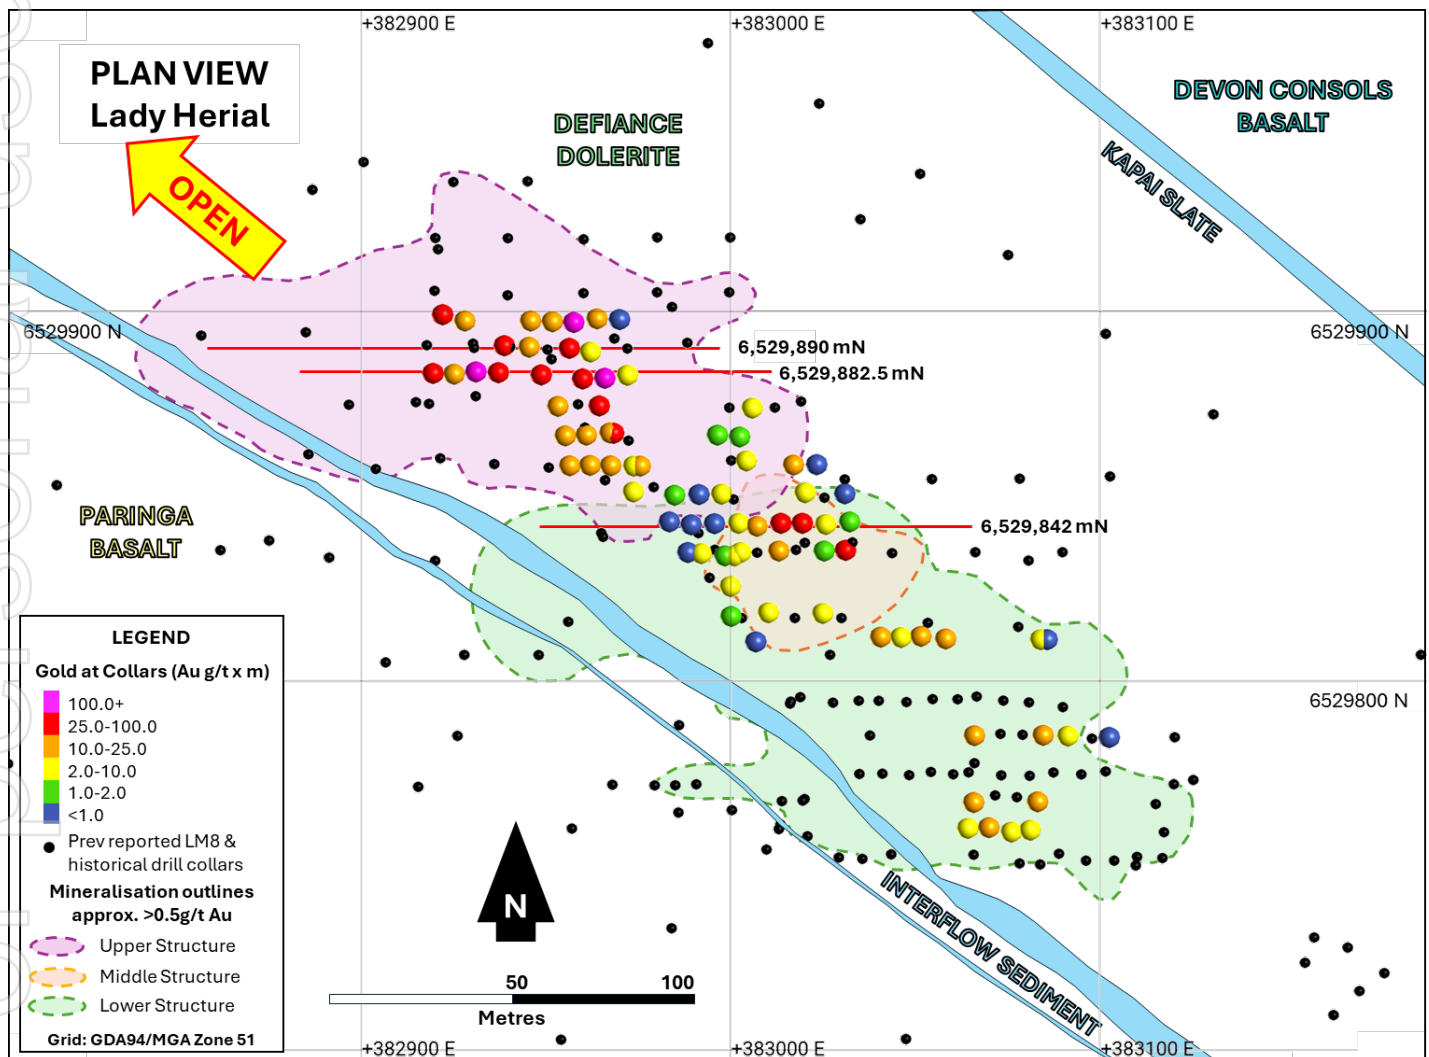
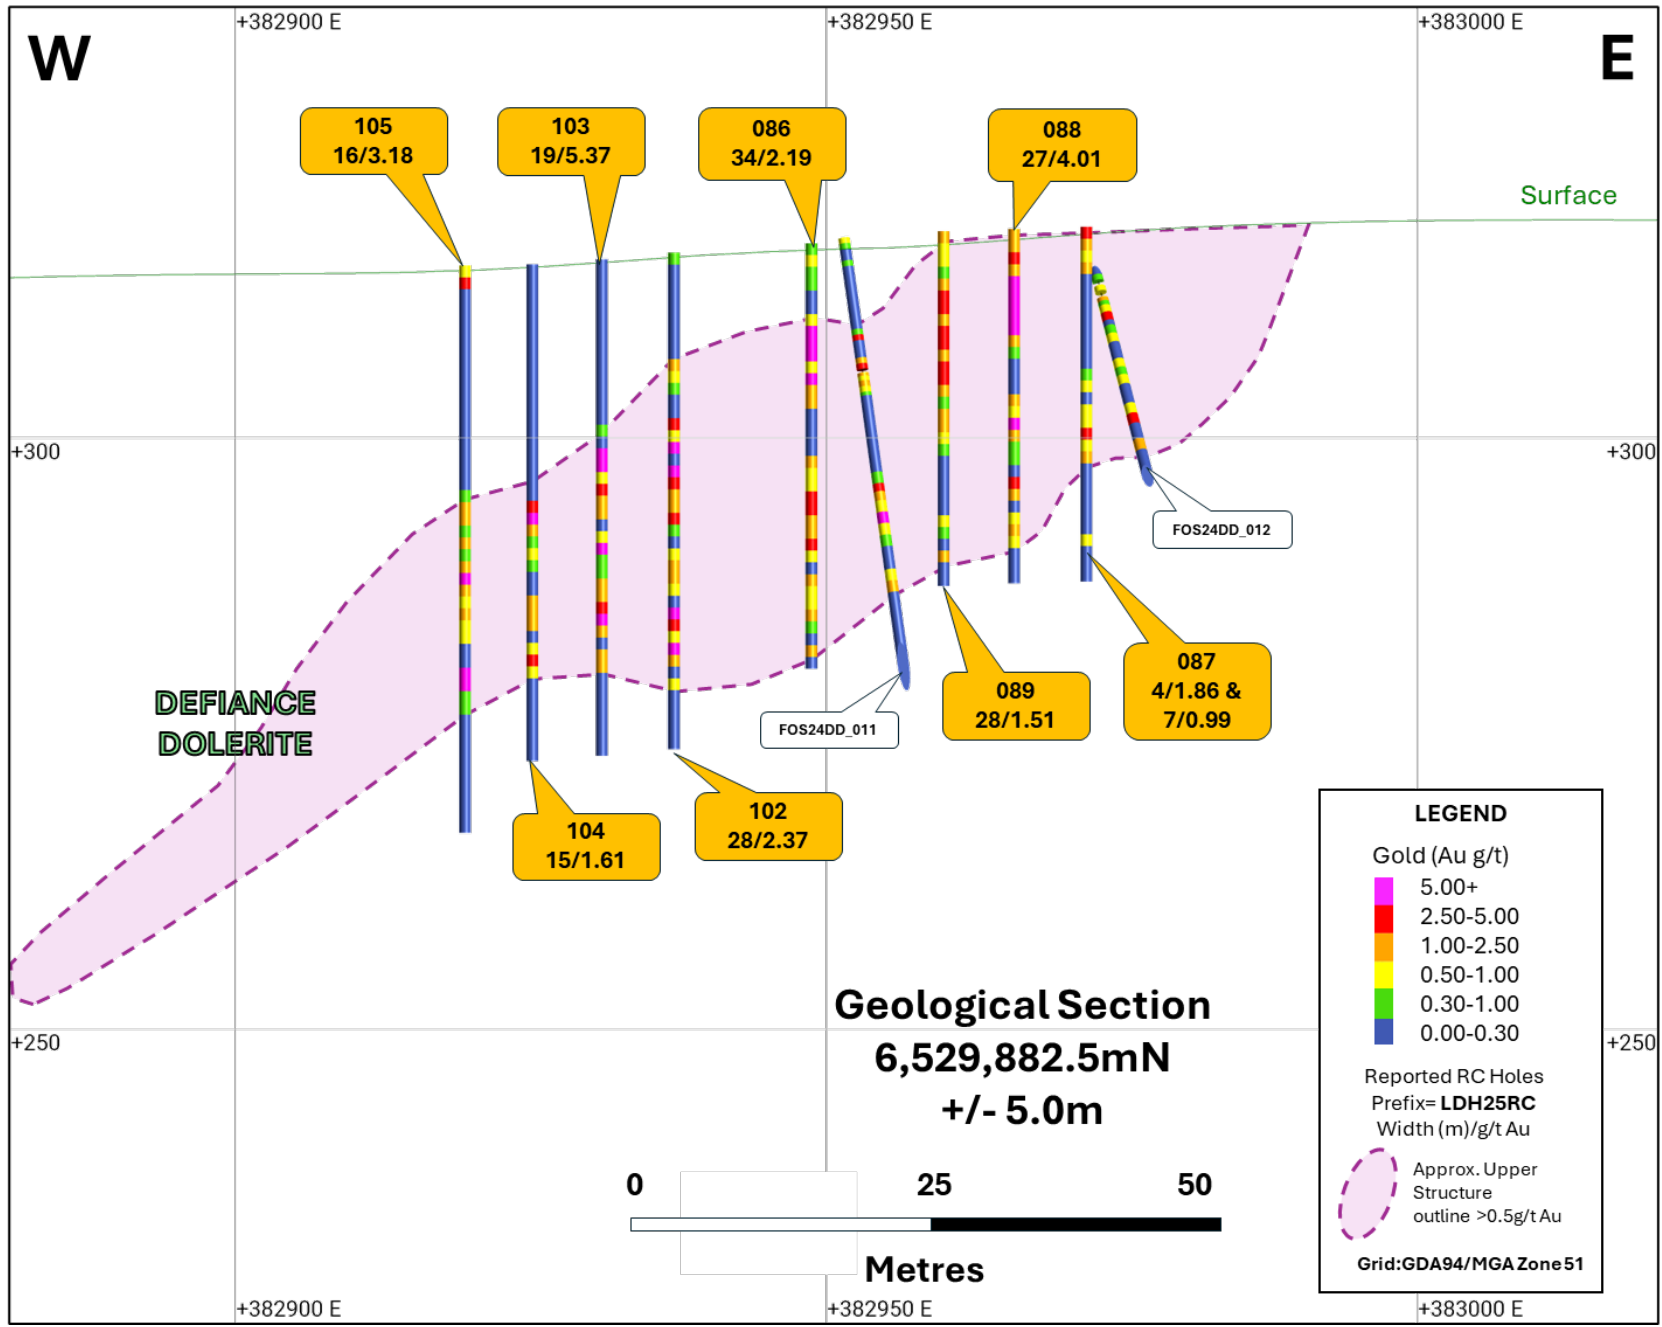

Figure 1: Plan view at the Lady Herial deposit scale, illustrating today's results (coloured spheres) drilled in latest RC campaign.
Figure 3: Geological cross section 6,529,882.5mN
Figure 1 below illustrates a plan view at the drill program scale.
The results further enhance the robustness of the gold structures and will improve the pending grade and Mineral Resource estimation (MRE) exercise. The additional close-spaced data enables the Company to not only tighten up the >0.5g/t Au mineralised outlines (shown in plan on Figure 1 and in section on Figures 3 to 5) but also to far more accurately model the higher grade discrete structures within those broader shapes.
- Figure 3: Geological cross section 6,529,882.5mN through the Upper Structure
Note: All drilling results and location details are provided in Annexures 1 and 2 and where previously reported Company and historical drilling has been shown in today's report in plan on **Figure 1**, or section on **Figures 3, 4 and 5**, it is represented as either a collar point or drill trace but without labelled assay or grade accumulation data for ease of viewing of the new information. Assay results for these holes have been previously reported and reference should be made to earlier Lady Herial ASX announcements lodged in 2024, dated 22 April, 17 June, 23 September, 1 October, 10 October, 28 November and 13 December, and in 2025, on 17 January, 19 February and 3 March.
**Figure 2** below adds the Foster nickel mine workings and its underground nickel drilling, located some 620 metres beneath Lady Herial, to Figure 1. This overlay of gold and nickel areas of interest highlights the adjacency of the Lady Herial gold footprint over, but vertically separated from, an area the subject of intense nickel exploration, resource definition and then underground development and drilling between the late 1970s and the mid-1990s.